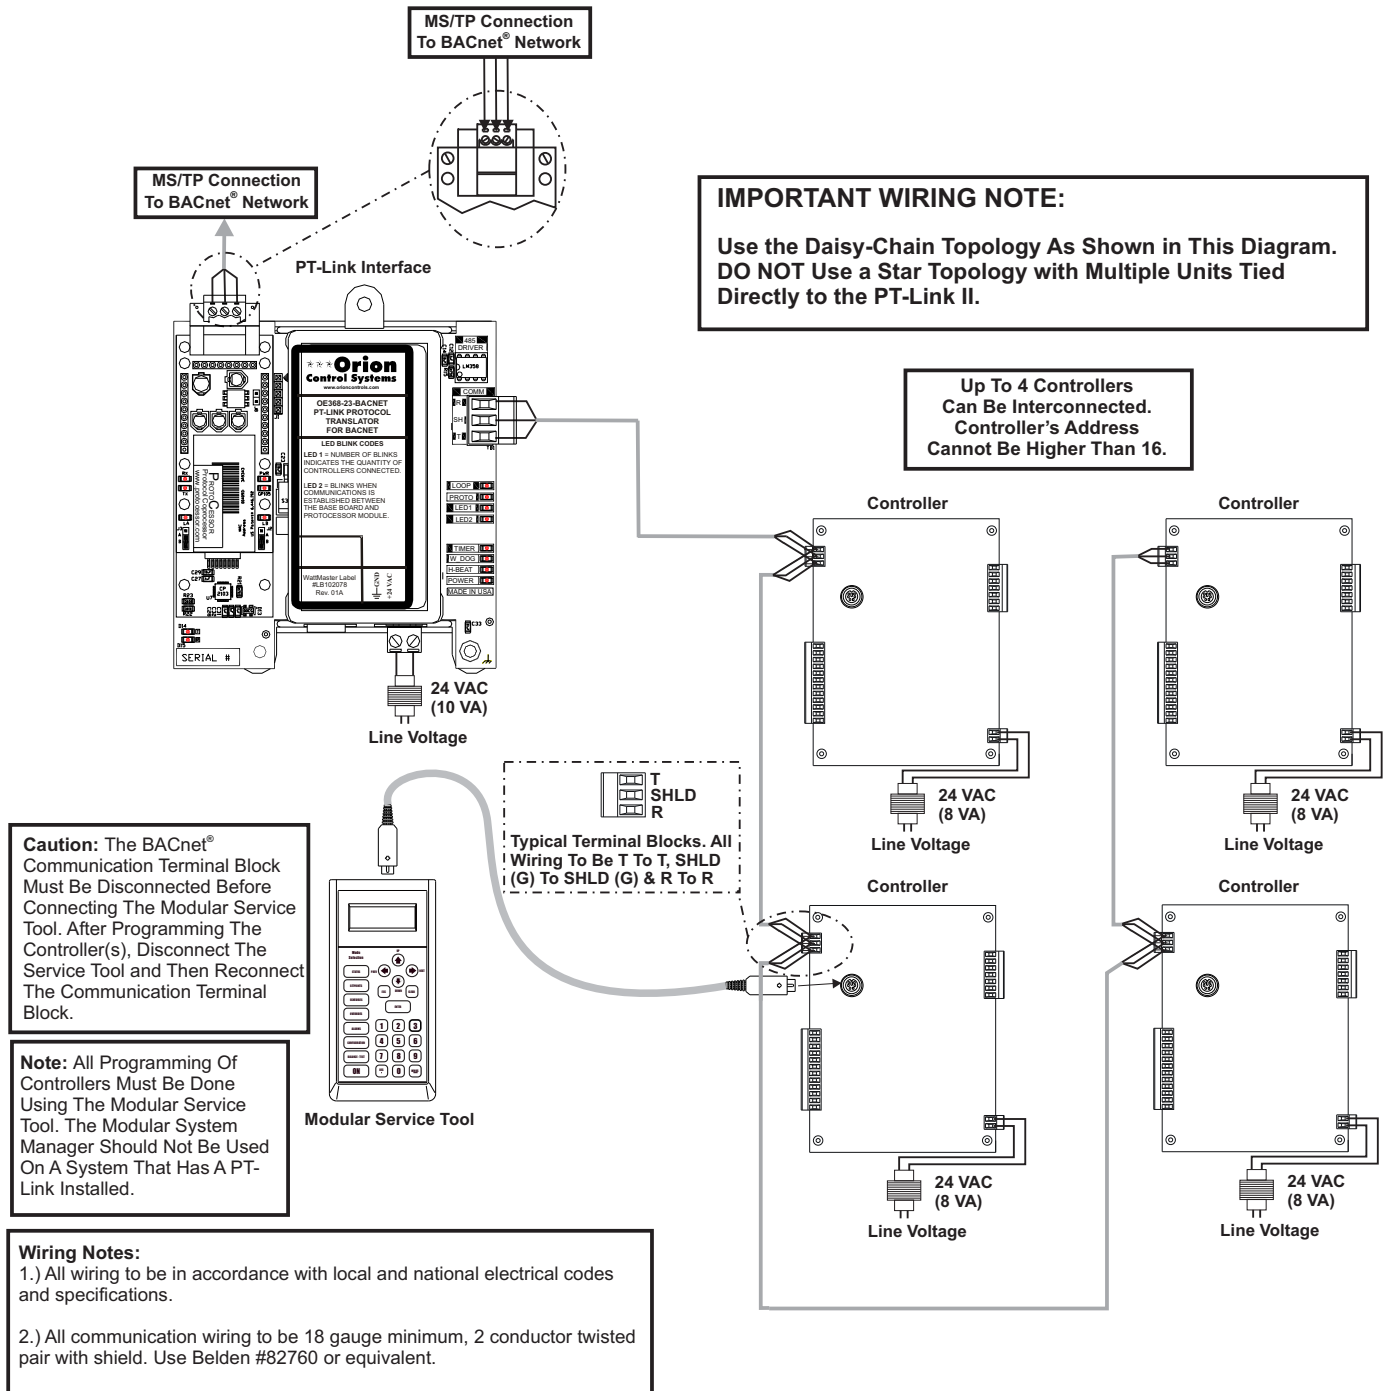

Figure 2: PT-Link II BACnet® Interface Wiring
2. Connect your PT-Link II to the Controller(s) on your system (up to four) and connect your PT-Link II to the BACnet Network (**Figure 2**).